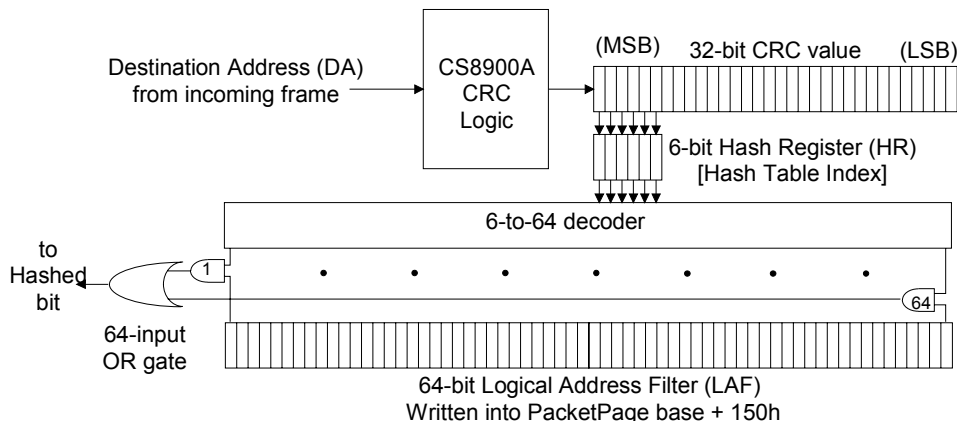

Figure 23. Hash Filter Operation
See Figure 23. The DA of the incoming frame is passed through the CRC logic, generating a 32-bit CRC value. The six most-significant bits of the CRC are latched into the 6-bit hash register (HR). The contents of the HR are passed through a 6-to-64-bit decoder, asserting one of the decoder's outputs. The asserted output is compared with a corresponding bit in the 64-bit Logical Address Filter, located at PacketPage base + 0150h. If the decoder output and the Logical Address Filter bit match, the frame passes the hash filter and the Hashed bit (Register 4, RxEvent, Bit 9) is set. If the two do not match, the frame fails the filter and the Hashed bit is clear.